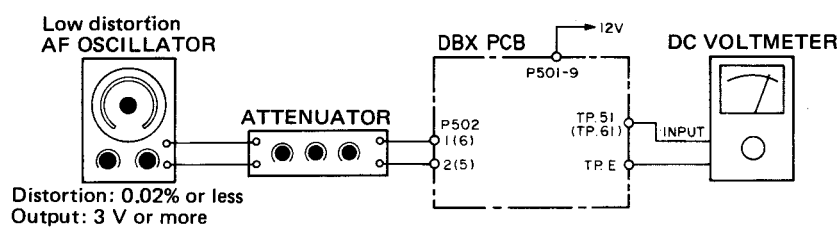

Fig. 5-14
6. Like Fig. 5-14, connect a DC voltmeter to TP51/TP61, then note the reading on the DC voltmeter with an input signal of 1 kHz/-8 dB (308 mV).
9. Check that when the input signal is 100 Hz/-8 dB (308 mV), then 10 kHz/-8 dB, the output signal from 3(4) terminal (OUTPUT) deviates by +0.5 dB \pm 0.5 dB, then -2.8 dB \pm 0.5 dB from -8 dB (reference), respectively.....so that output, as a voltage value, should be 308 mV to 346 mV for 100 Hz, and 211 mV to 237 mV for 10 kHz.